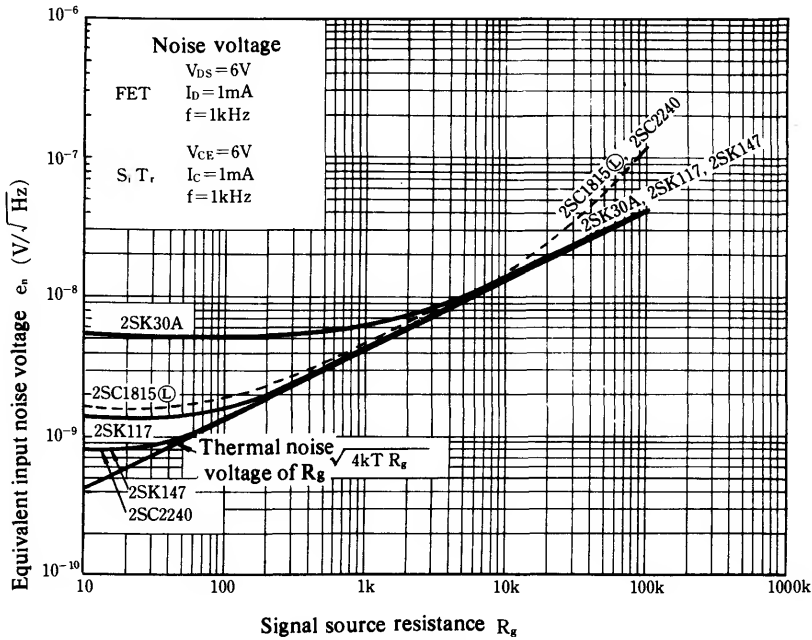

Fig. 20 Equivalent input noise voltage
less because input impedance of FETs is very high; noise caused by current $i_n R_G$ as small as $1.8 \text{ nV}/\sqrt{\text{Hz}}$ at $R_G = 100 \text{ k}\Omega$, so that it can be neglected. Fig. 20 offers a comparison between noise characteristics of FETs and those of bipolar transistors.
It is evident from observing Fig. 20 that low-noise FETs such as 2SK117 and 2SK147 are superior to low-noise bipolar transistors 2SC1815 (L) and 2SC2240 in the high signal source resistance region ($R_g > 10 \text{ k}\Omega$), and that 2SK117 is comparable to 2SC1815 (L) — and 2SK147 to 2SC2240 — in the low signal source resistance region ($R_g > 100 \Omega$). When considering the impedance of tape heads and MM cartridges, FETs are superior for first-stages of amplifiers.